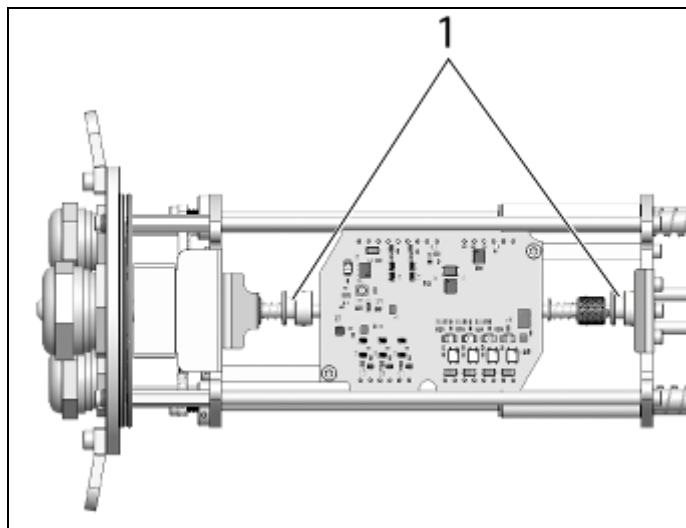
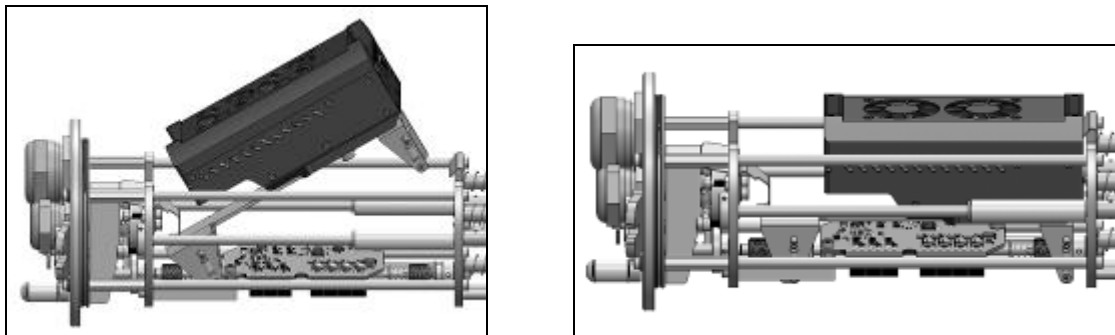

Figure 44: Notch to fix the PI Netbox (top view)
Figure 45: Fitting the PI Netbox into the chassis (right hand view)
At first push the fastening rail with the PI Netbox into the left notch (1) of the shaft. Afterwards into the right notch (1) (**Figure 44**) until it is engaged (**Figure 45**).